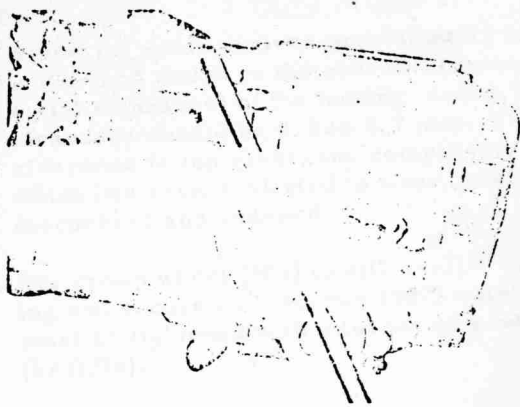

Fig. 53
4. Check whether the selector finger can be moved without any hindrance in the lugs of the selector forks from 2nd speed to 1st speed. The selector fork is correctly set when the gearshift operating shaft can be moved in axial direction without hindrance from the 1st speed position to 2nd speed position with the gears in neutral. If this is not the case, one of the two grub screws (604) must be loosened with the aid of a key which is inserted through the elongated hole in the rear housing, and the other grub screw must be tightened (Fig. 53) until the gearshift operating shaft can be moved to and fro in axial direction. Subsequently the previously loosened grub screw must be tightened again. Place cover plate (126) with gasket (125) on the elongated hole and secure it with nuts (127.1) and spring washers (127).